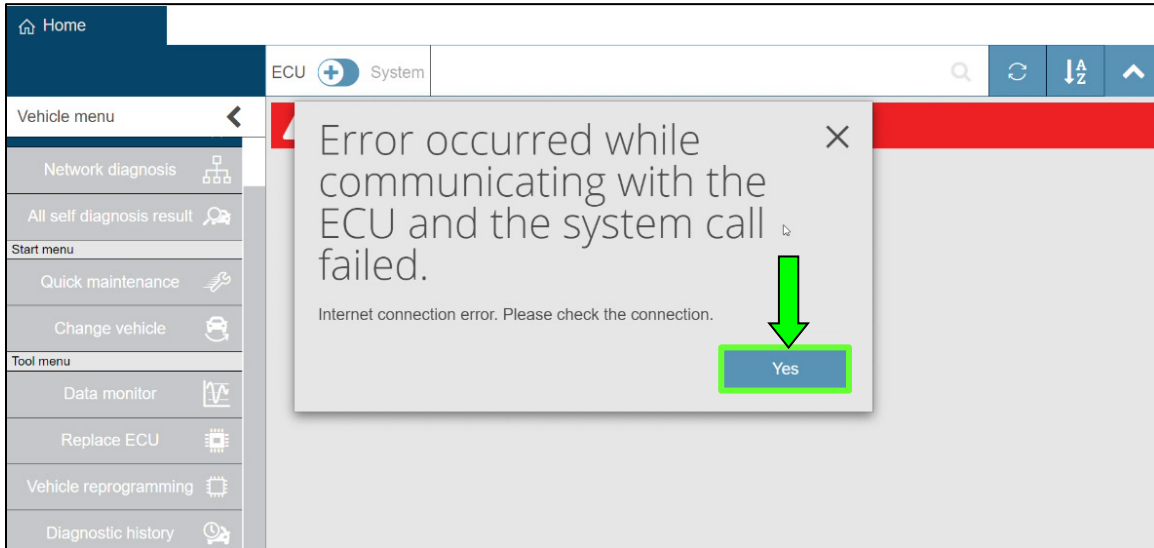

Figure 30
33. If the error shown in Figure 30 is present, select **Yes**, close C4, reopen and allow system call to be performed.